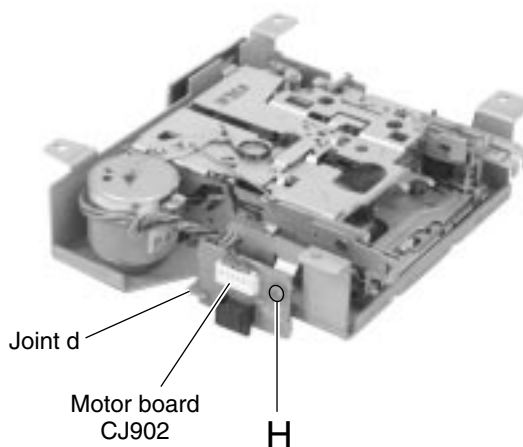

Fig.11
■ **Removing the motor board (See Fig.11)**